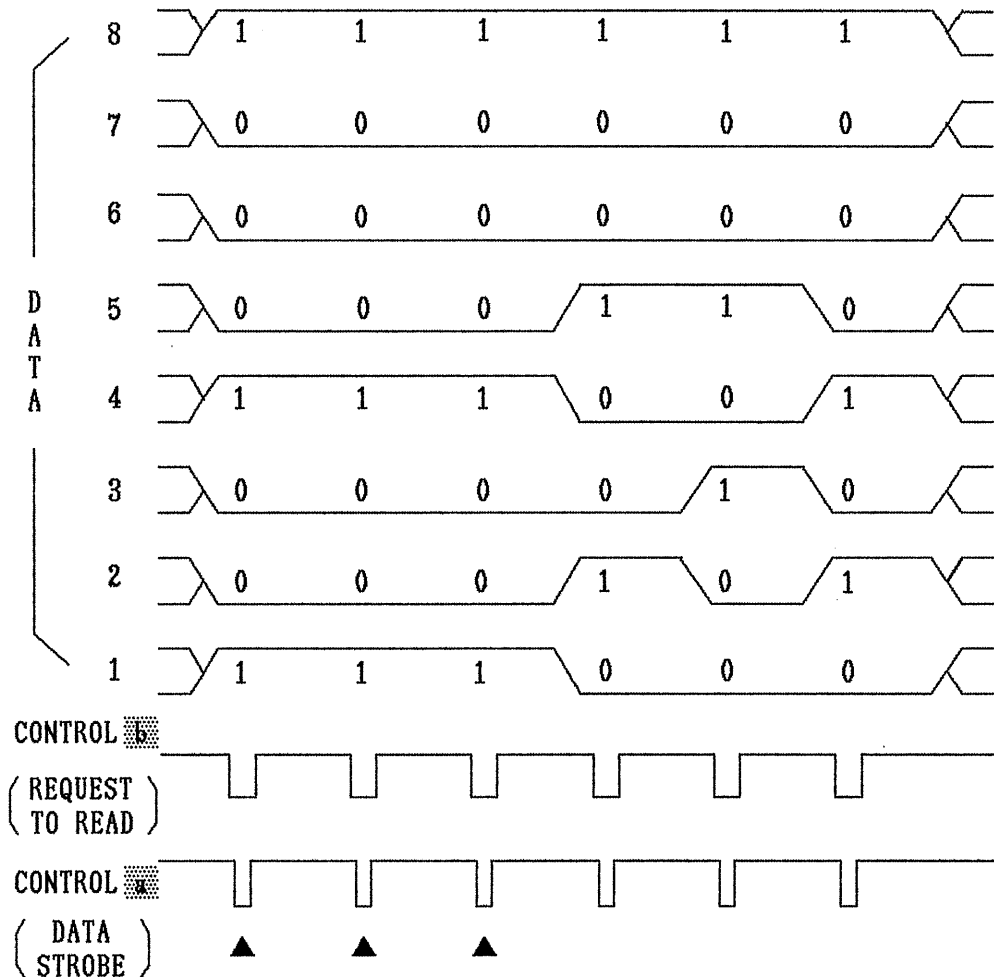

Fig. 5-3
- 4) After this point, processing for memory storage inside the main unit will begin from the point data "10001001" of function F2 and control signal [B] are sent and control signal [A] goes to "0" as indicated in Fig. 5-3.